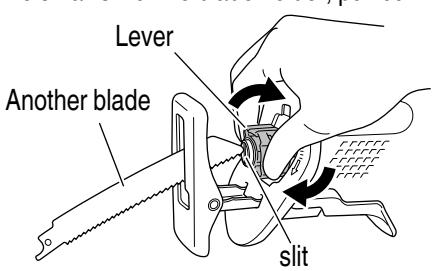

Fig. 9
- (1) If a part of the broken saw blade is sticking out of the small slit of the blade holder, pull out the protruding part and take the blade out.
- (2) If the broken saw blade is hidden inside the small slit, hook the broken blade using a tip of another saw blade and take it out. (Fig. 9)